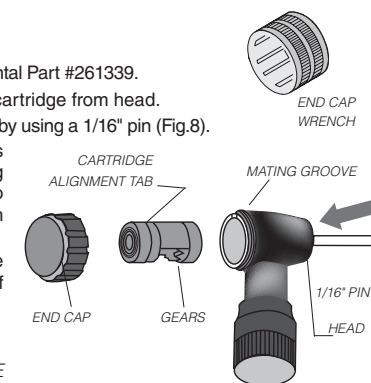

FIG.8
- Pushing from the front of the head, remove the cartridge by using a 1/16" pin (Fig.8).